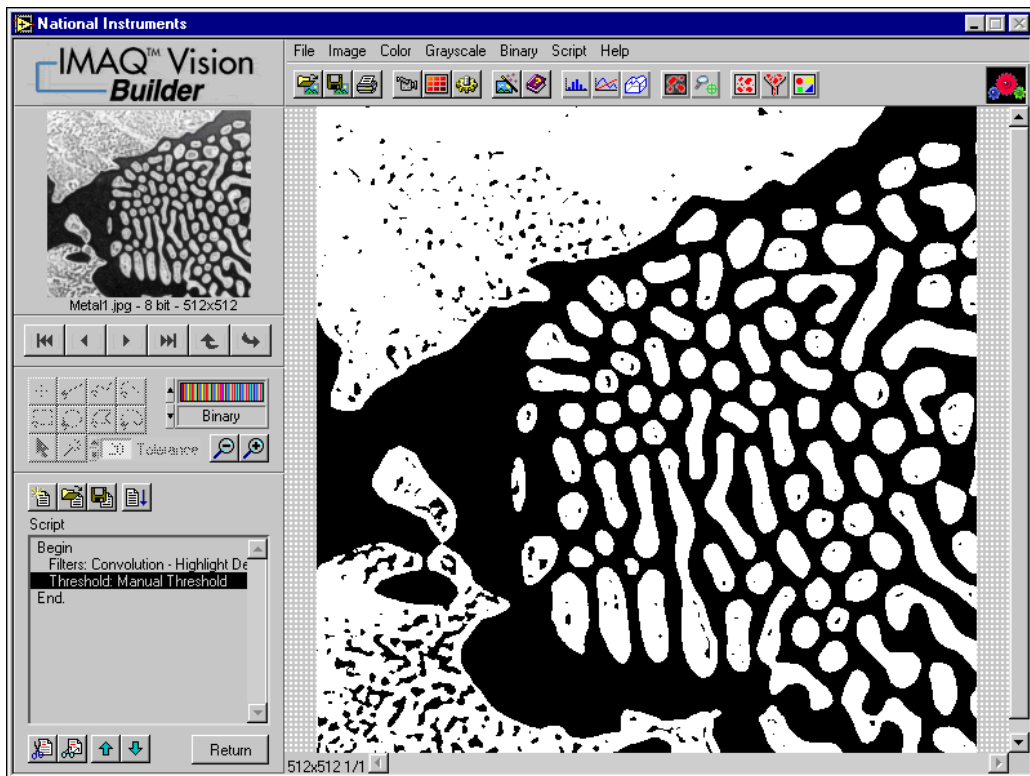

Figure 3-3. Separating Particles from the Background with Thresholding
4. Click **OK** to add this step to the script. Figure 3-3 shows the thresholded image. The pixels that you want to process are white. Unselected pixels are set to black.